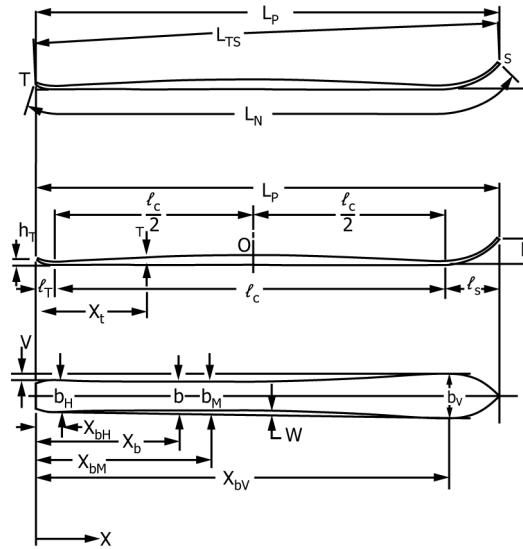

FIG. 1 Alpine Ski Locations
3. Definitions (Refer to Figs. 1 and 2)